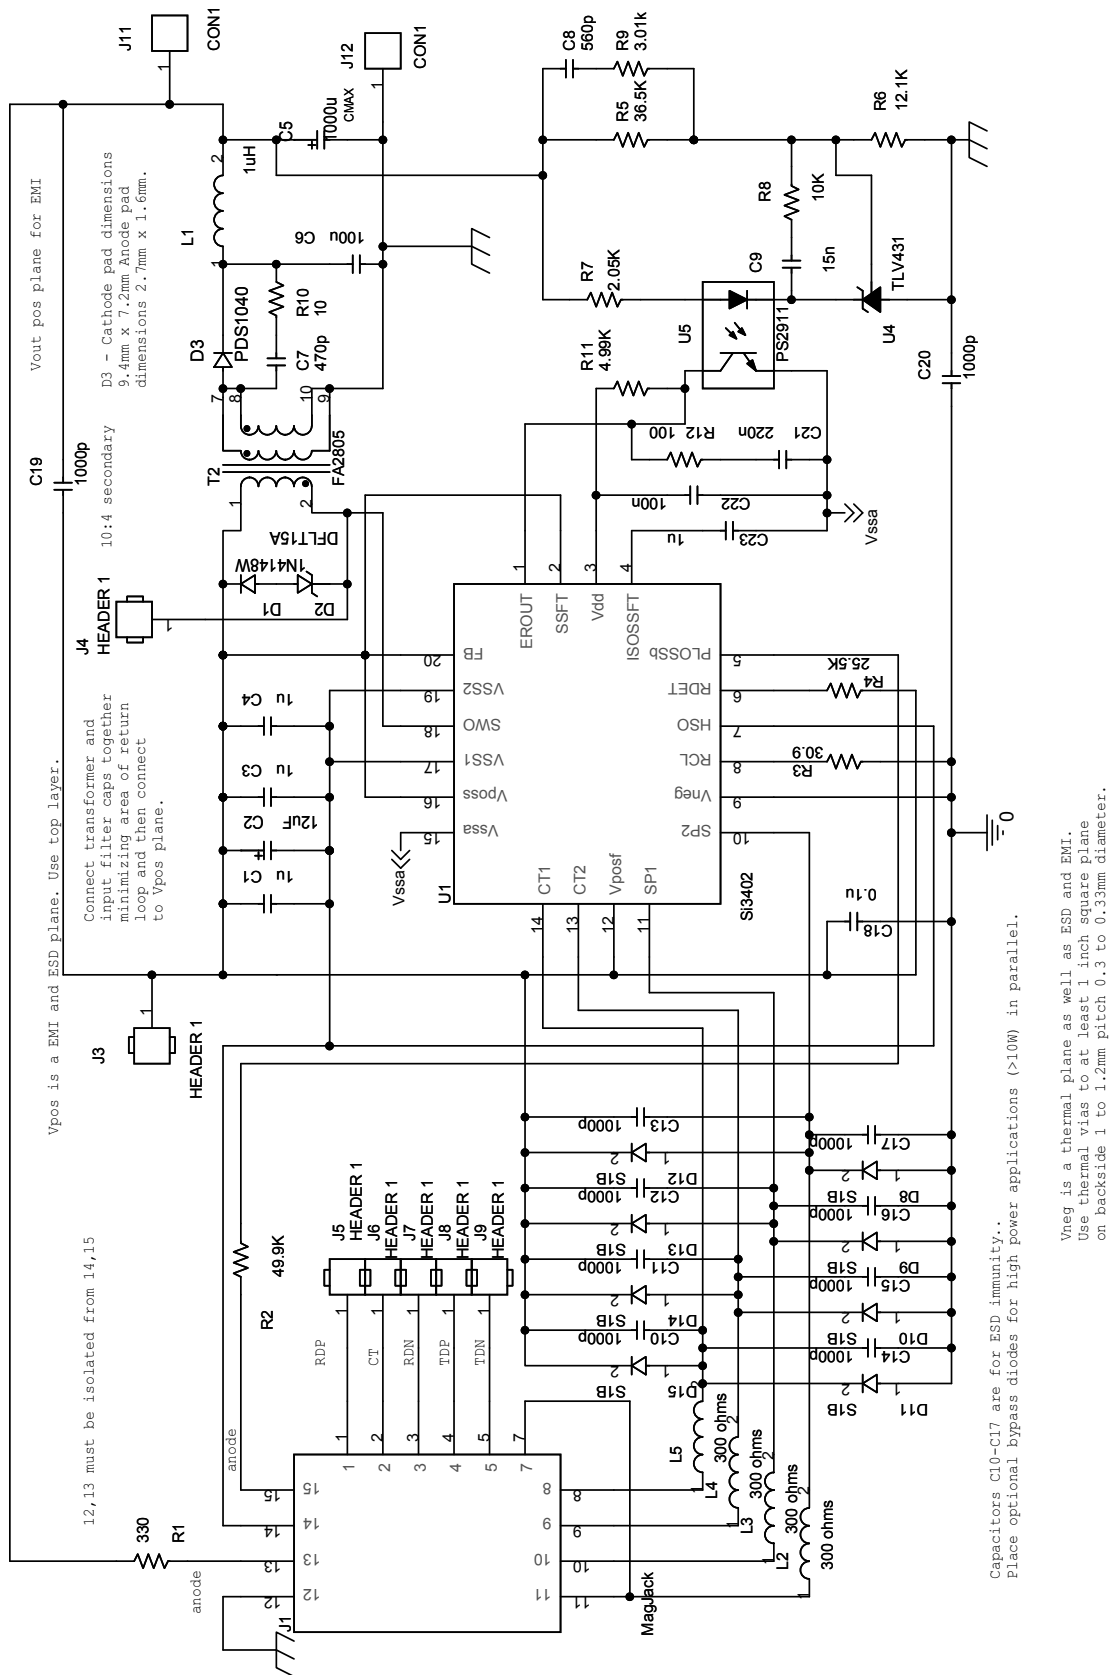

Figure 1. Si3402 Schematic—5 V, Class 3 PD
The board itself has no Ethernet data transmission functionality. The dc output is at connectors J11(+) and J12(–). Boards are generally shipped configured to produce +5 V but can be configured for +3.3 V or other output voltages as shown in Table 2 on page 10. The Si3402 board schematics and layout are shown in Figures 1 through 6. The Si3402 ISO-EVB is normally populated for 5 V output class 3 signature and without the diode bridge bypass recommended for higher power levels. Use the ordering option Si3402 ISO-C4-EVB for 5 V output, class 4 signature and diode bridge bypass for higher power levels.
- f. Based on your required PD power level, select the appropriate class resistor value by referring to Table 2 of AN296. This sets the R_{class} resistor ($R3$ in Figure 1 on page 2).